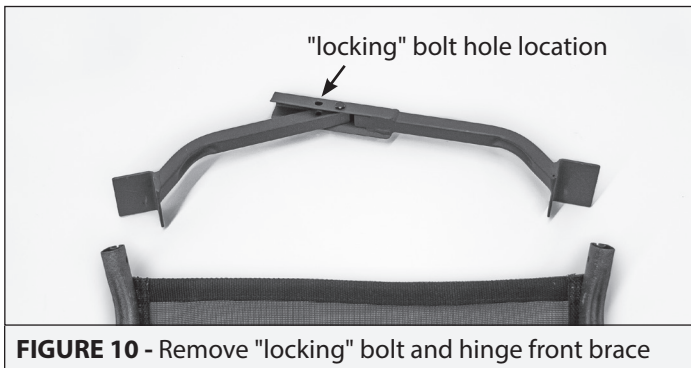

FIGURE 10 - Remove "locking" bolt and hinge front brace
e. Remove the factory installed "locking" bolt and locknut from the front hinged brace (410112), and set aside. Hinge the brace slightly to aid in assembly. **SEE FIGURE 10.**